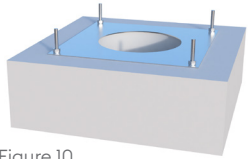

Figure 10
4. Position the Outer Surface Plate (E) over the pre-drilled holes. Locate an M12 nut and washer approximately 70mm down on each threaded bar and insert through the 12.5mm pre-drilled as Figure 10.